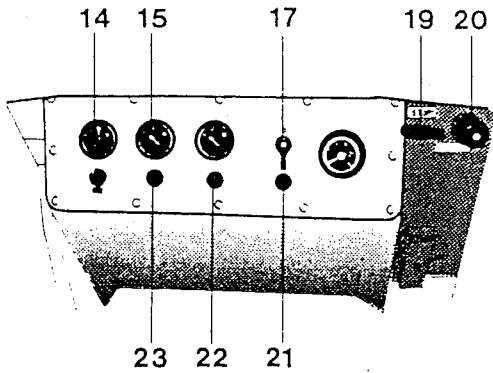

Fig. 15
- 1 When the engine has been warmed up, pull out the throttle (20), fig. 15, until the engine speed is 2300 rev/min. Check the tachometer. Use the locking ring to adjust the friction in the throttle.
- 3 When driving on asphalt, switch on the sprinklers (9), (10) for both drums by means of the respective switches. The amount of water flowing onto the drums can be individually regulated by means of two knobs (12), (13) on the control boxes. The drum that is at the front in the direction of travel automatically provides a slight surplus of water that can be used by the other drum. This balance can be adjusted by means of the knobs (12) and (13).